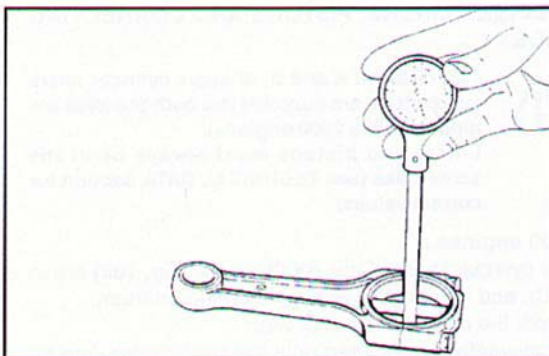

Fig. 107 ▲
- measure the diameters of the big end and the small end bushing (Figs. 107 and 108):